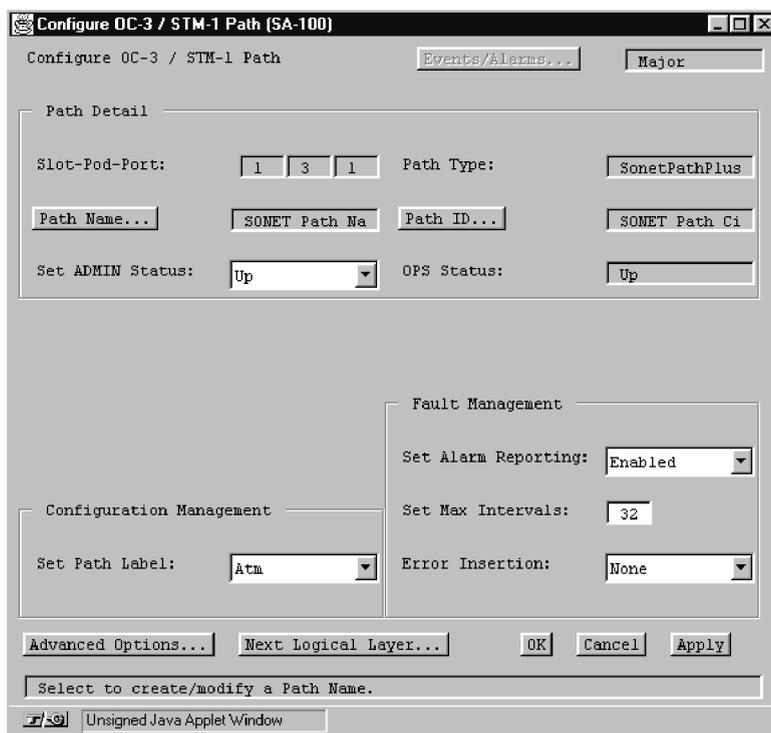

Figure 4-24. Configure OC-3/STM-1 Path Window
1. Choose **Configure Path** in the **Configure OC-3/STM-1 Port** window. The **Configure OC-3/STM-1 Path** window appears (see Figure 4-24).